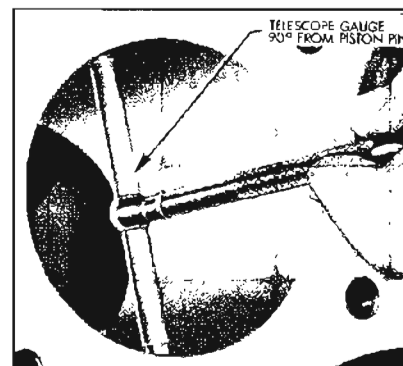

Figure 2-36—Checking Cylinder Bore
1. Expand a telescope gauge to fit the cylinder bore at right angles to the piston pin and between 1-1/2" and 2" from the top. See Figure 2-36.